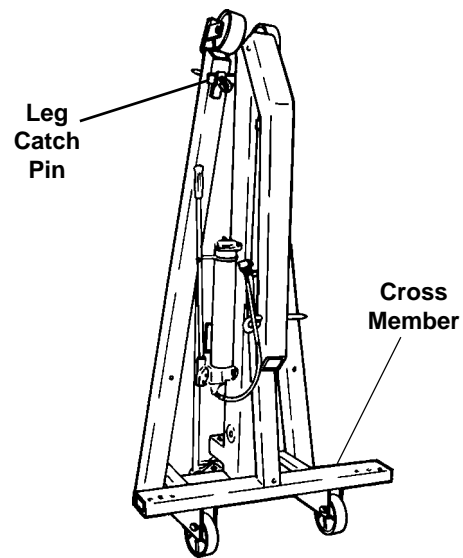

Figure 1
- a. Grasp one of the legs, and remove the leg catch pin holding the leg in an upright position against the crane mast. See Figure 1.